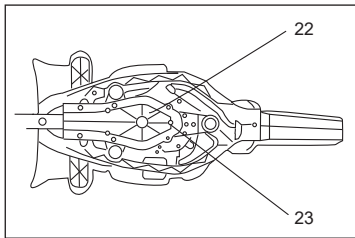

Fig. 30
2. Add grease through the lubricator (23) with an lubricating gun until the grease comes out between the gear box (22) and the cutting device (1) (Fig. 30).